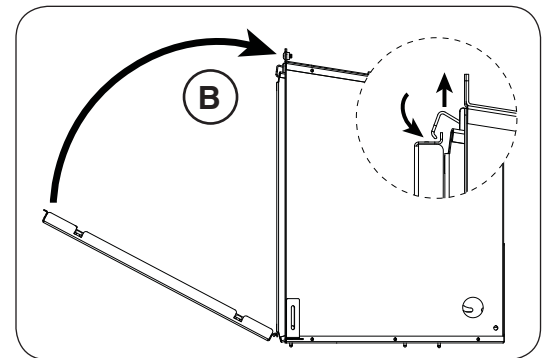

Fig. 37-2 Secure glass panel
2. With the bottom of the panel in place, rotate the panel upward until it closes. Then pull the spring latches (found on the top of the unit) out and over the two tabs found on the top of the panel. See Fig. 37-2, "B".